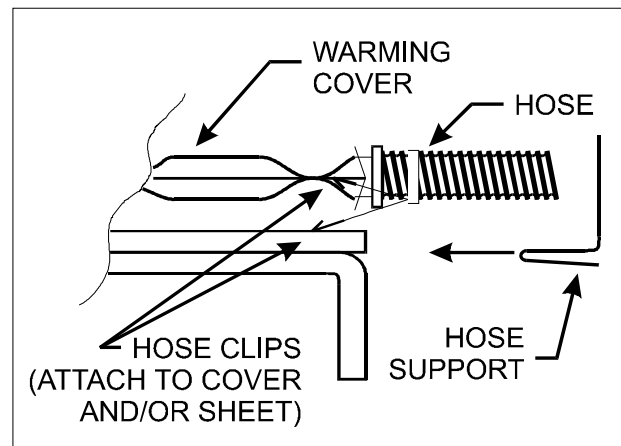

Fig. 1-3a
8. Insert the flexible air hose into the interface on the **SOFT-FLEX** Warming Cover (see Fig. 1 - 3). Refer to Product Application Sheet provided with cover for additional instructions. To prevent the hose and blower unit from pulling the Warming Cover off the patient, a hose support and hose clips have been supplied with your unit. (Refer to Fig. 1-3a on next page for suggested use.)